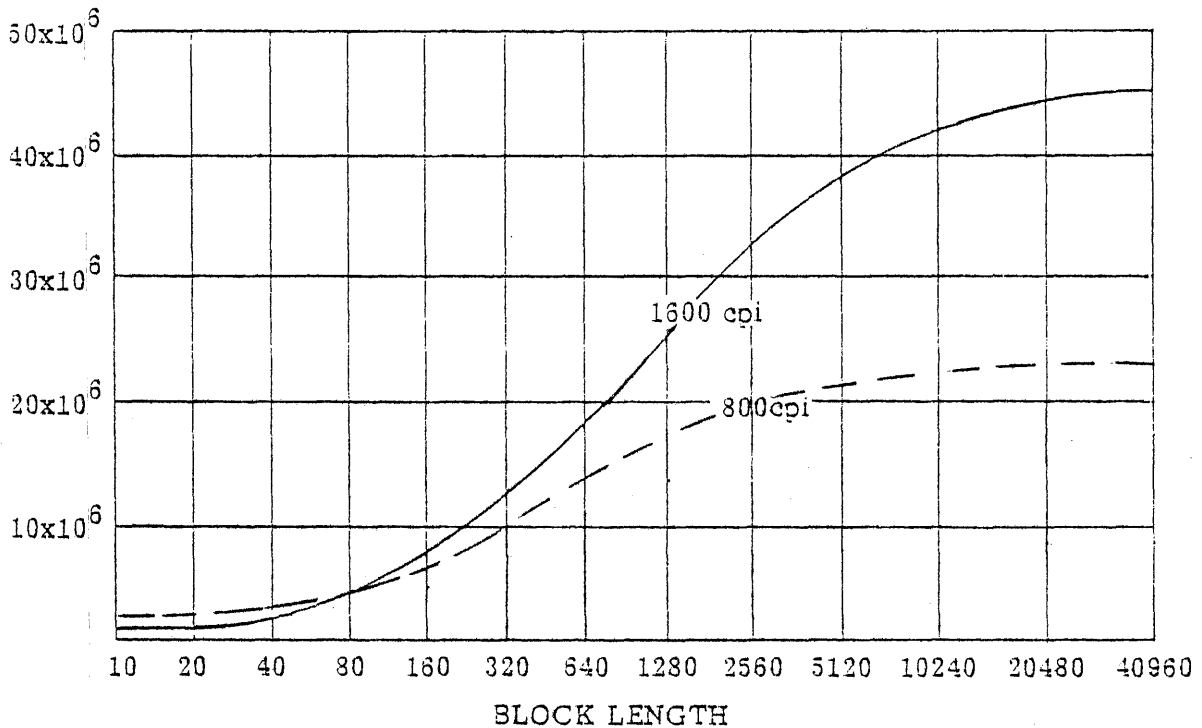

Figure 4-4 Comparison of Packing Density, Phase Encoded and NRZI Formats
4.14 **EFFECTIVE TRANSFER RATE.** During the actual processing of the data part of a record, the data transfer rate is fixed. However, in a long tape the effective, or average, transfer rate depends somewhat upon record length. Record length determines the percentage of tape taken up by the gaps. At the highest density (1600 bpi) each record gap occupies the space of 960 characters. Figure 4-4 shows the storage capacity of a reel of tape at various record lengths. The effective transfer rate is therefore determined by record length as well as tape speed and density.